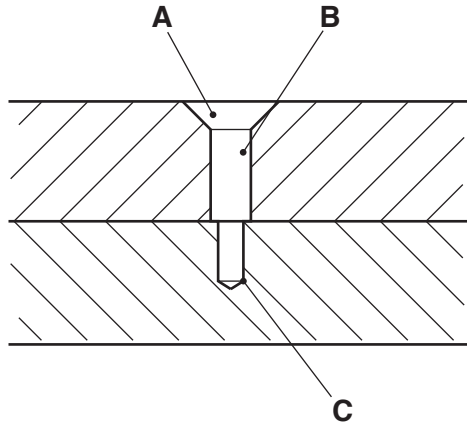

Fig. 1
- 1 Fig. 1 shows a cross-section drawing of **three** different holes drilled into two separate pieces of wood. State the **three** types of drilled hole **A**, **B** and **C**.